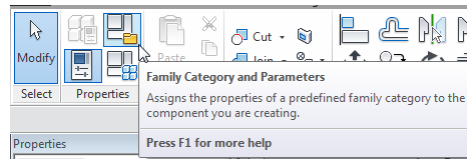

Figure 29
2. Directly above the Family Types button click the **Family Category and Parameters** button (see Figure 29).